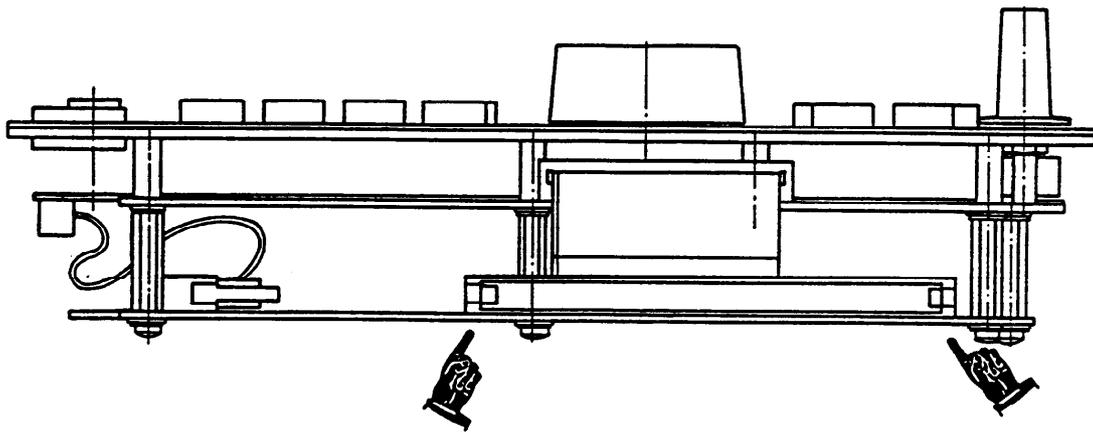

Fig. 4.3 Location of Connector X20 (Control Unit 2)
3. Carefully pull control unit 2 out to the front until male connector X20 (see Fig. 4.3) becomes accessible.